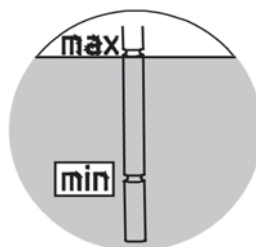

Figure 26: Checking the oil level with a dipstick
2. **Gear units with oil tank:** Der The oil level must be checked with the aid of the cap screw with dipstick (G1¼ thread) in the oil tank. The oil level must be between the top and bottom marking when the dipstick is fully screwed in (see Figure 26). Top up the oil level with the relevant type of oil as necessary. These gearboxes may only be operated in the mounting position stated in Section 7.1 "Versions and maintenance".